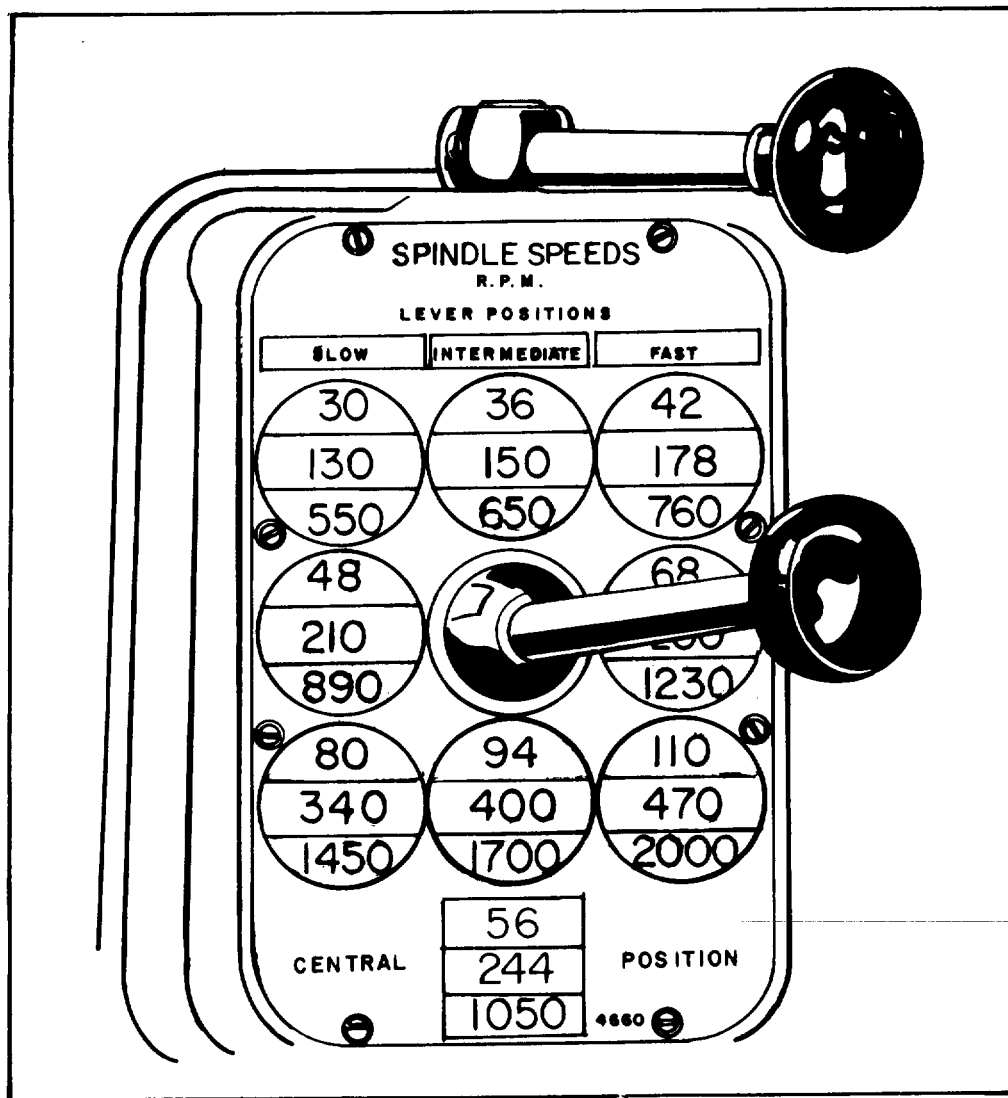

Figure No. 6-Direct Reading Speed Control, 27-Speed Head
**SPINDLE SPEED SELECTOR**-All speeds are procured through the action of two levers whose positions clearly and directly indicate on the speed plate the R.P.M. of spindle at any setting, Figure No. 6. The top lever has three positions, one for the slow range, indicated in blue, one for the intermediate range, indicated in red, and one for the fast range, indicated in black. The bottom lever has nine positions, each of which is designated on the speed plate by a circle which in turn contains three speed rates, indicated in corresponding colors. To select a desired speed, place the lower lever at the circle containing that rate, then place the upper lever in the blue, red or black position to correspond to the color indicated in the circle.